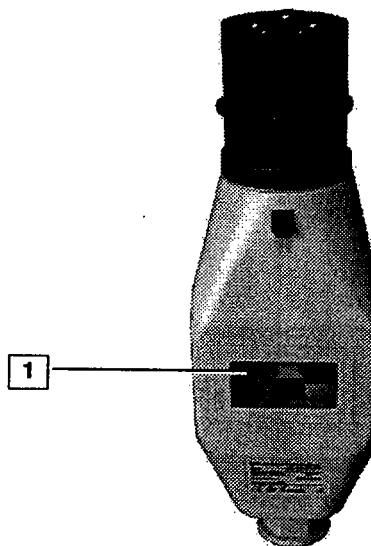

Fig. 6 Motor protection switch (three-phase motor)
- **Three-phase current:** the motor is switched on manually by pressing the start button (1, Fig. 6).